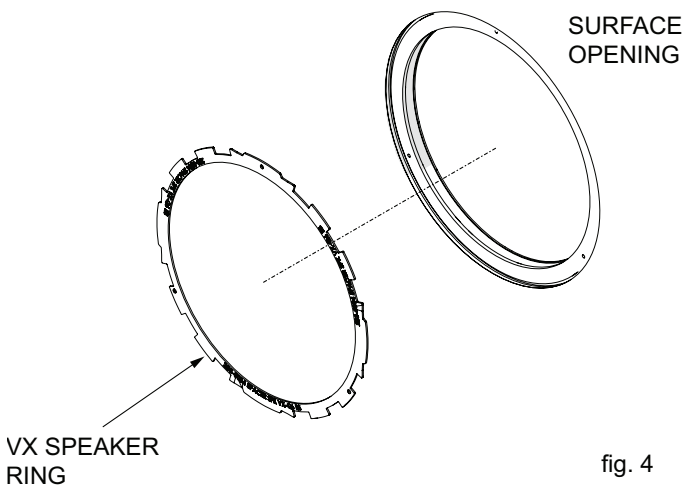

fig. 4
- When installing James VXQ speaker models, this spacer ring must be removed. (fig. 4)